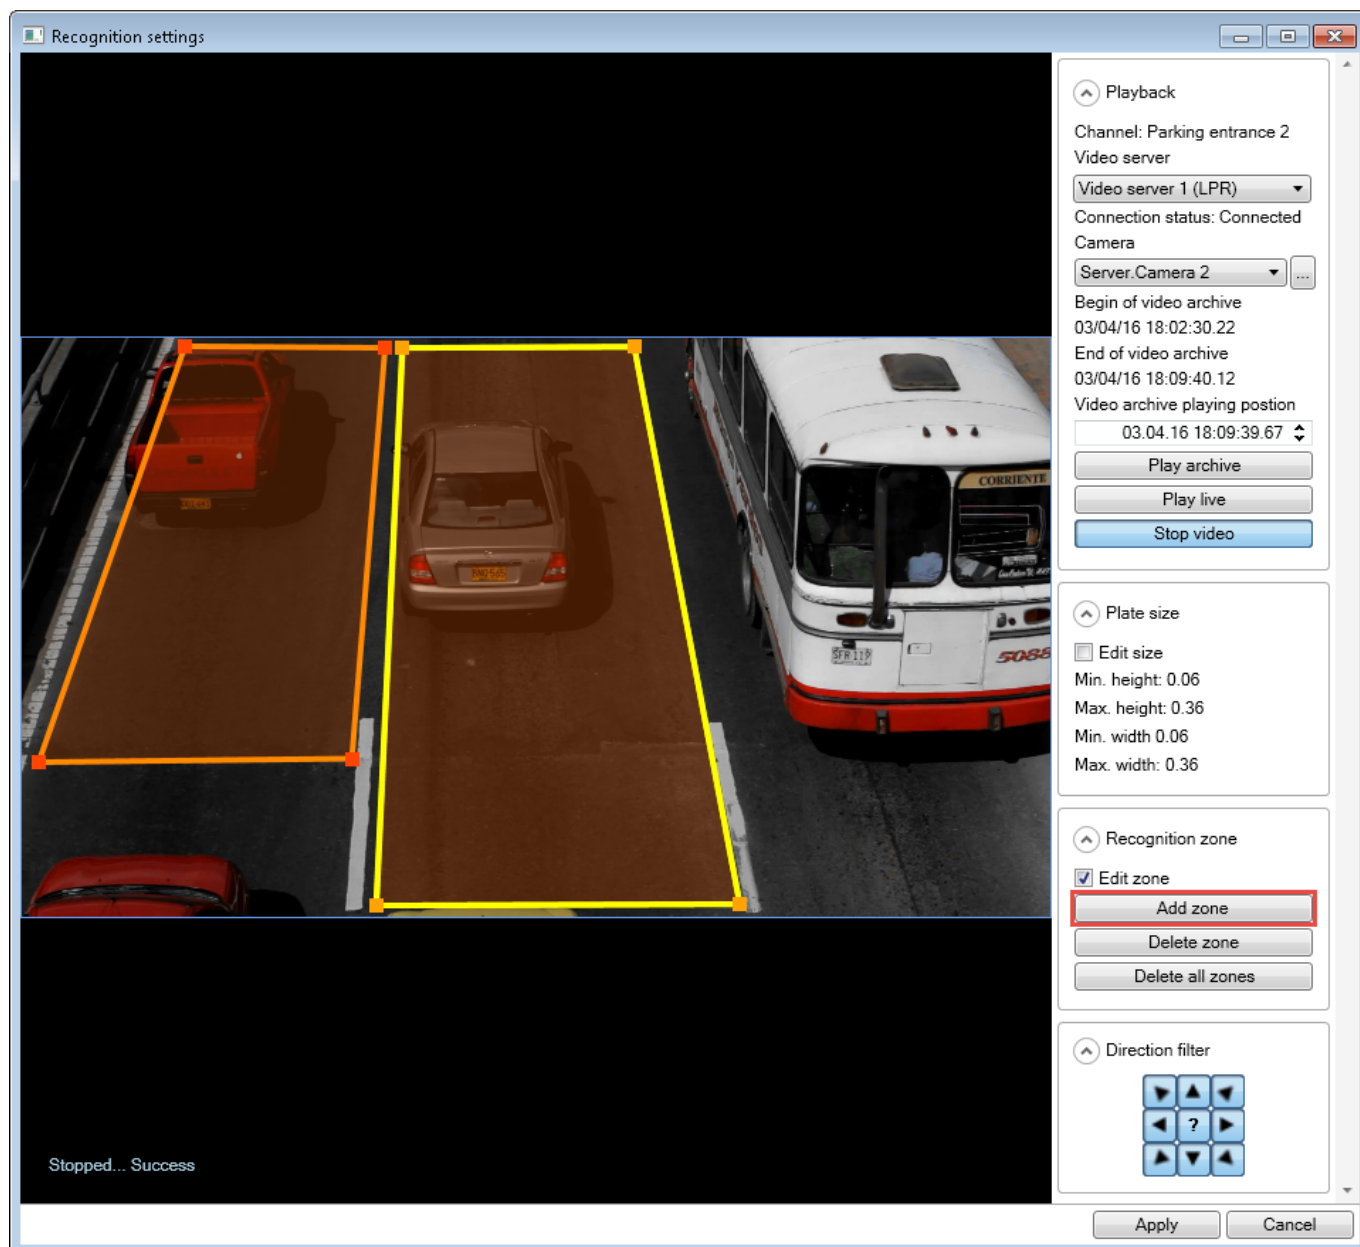

Figure 10: Creating multiple recognition zones
1. Select the **Edit zone** checkbox in **Recognition settings** window (1).
2. Click the **Add zone** button (2).
4. Click **Add zone** button again to create additional recognition zone (if needed) (Fig. 10). Adjust the newly created area as described in Step 3 above.